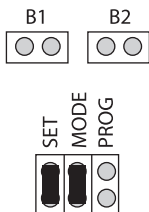

Fig. No 10
3. Set the jumpers on SET and MODE pins. See Fig. No. 10 for correct jumper position.